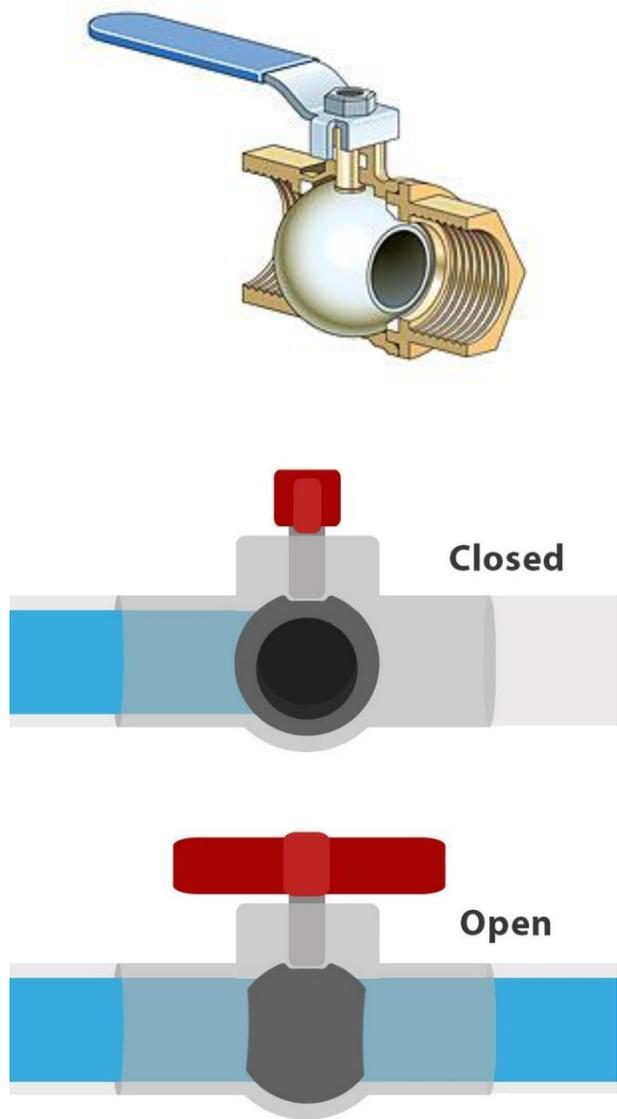

Figure 4 Ball Valves – a ball with a hole through it rotates around a vertical axis. Either allowing flow, or blocking flow.
- This valve can provide a 'full bore opening' through the valve to allow insertion of a probe. It has a 90° handle rotation to operate between fully open and fully closed. In the field, it can be identified by the appearance of the valve body and by feeling the smooth surface of the ball inside the valve cavity. See Figure 4.